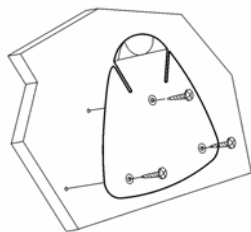

Fig. 2
2. Drill three 3mm holes marked "BRACKET" on the Template and using the supplied screws attach the clip bracket to the mounting surface. (Fig. 2)